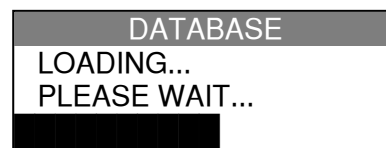

Fig. 2
- Then is loading it displays its database as **Fig. 2**, after an update, this operation can take several minutes.